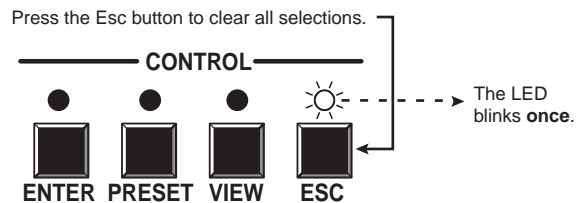

Figure 3-42 — Clear all selections
1. Press and release the Esc button (figure 3-42).